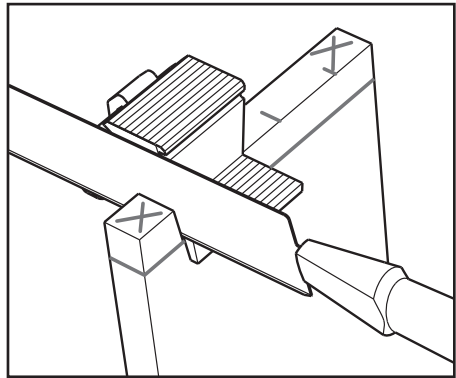

Figure 11: The first cut.
9. Place the saw against the guide, ensuring that it is fully registered (the magnet should take care of this). Begin your cut (see **Figure 11**).